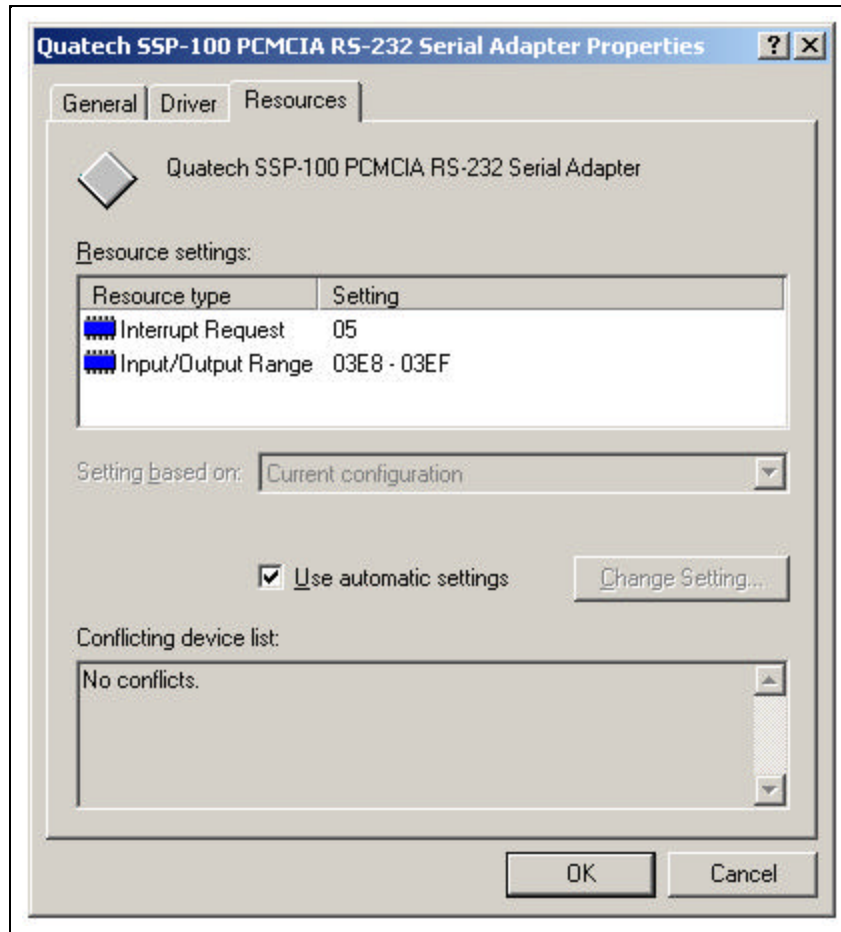

Figure 10. Windows 2000 Resource Allocation
4. Open the **Properties** dialog for the SSP-100 device, then click the **Resources** tab to view the Input/Output Range and Interrupt Request resource allocations. (see Figure 10. Windows 2000 Resource Allocation).